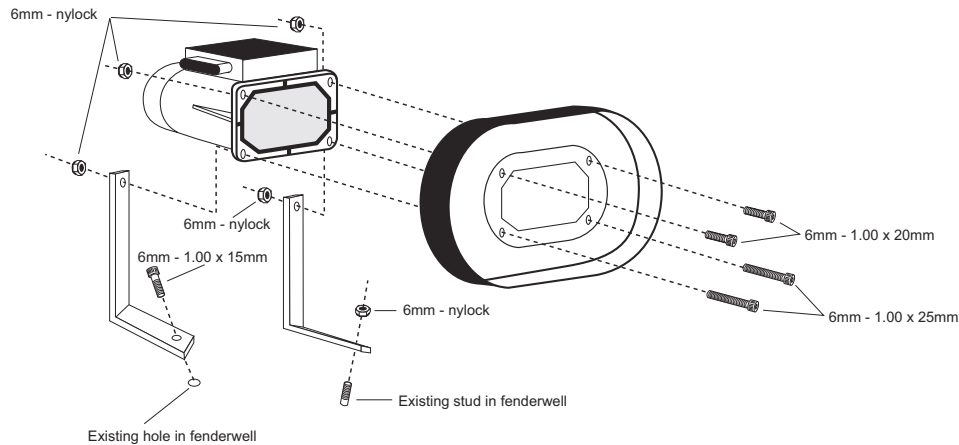

fig. 2
- 10) Install the filter adapter to the mass-air sensor, re-using the stock rubber gasket. (see fig. 2)